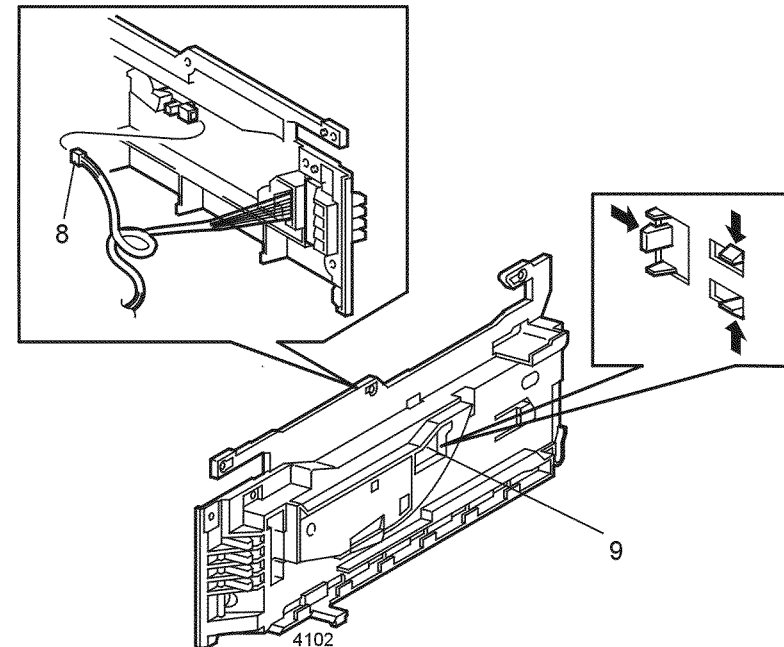

Figure 1 Paper Tray Sensor
8. Disconnect P/J137 from the back of the Tray Sensor (Figure 1).
9. Release the three locking tabs and remove the sensor (Figure 1).